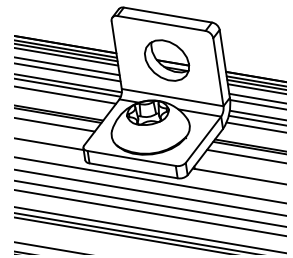

Figure 4: Safety cable bracket
4. See Figure 4. Tighten the supplied Torx bolt into the nut to a torque of 8 Nm so that the safety cable attachment bracket is held securely.